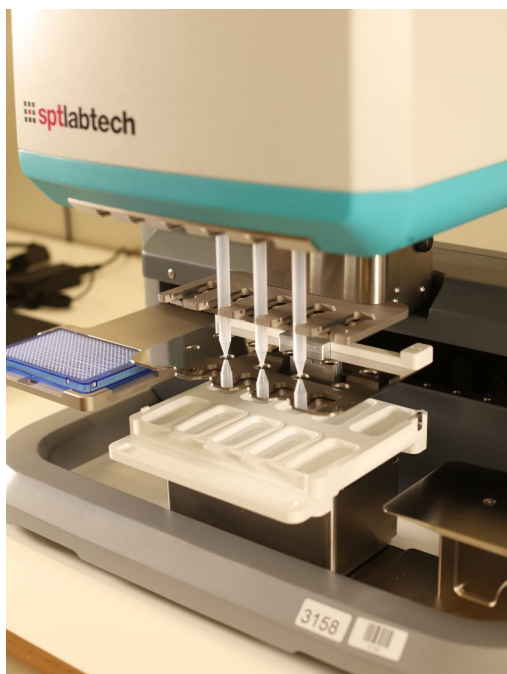

Figure 11. Reservoir tray in aspirate position
3. Slide the reservoir tray to the filling position (A) and place three new reservoirs in position B2, B3 and B4 (B) (Figure 11).